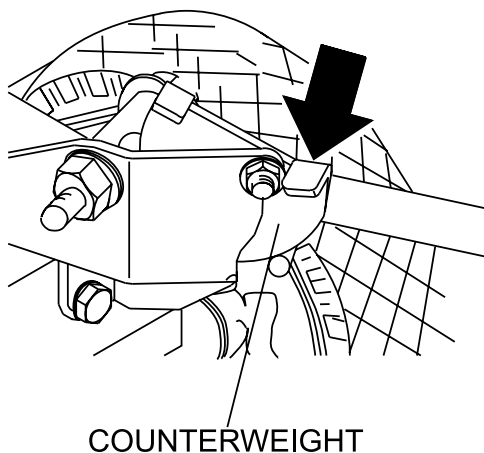

Figure 19. Outriggers (Released)
6. To unlock outriggers, push downward on the counterweight lever indicated by arrow (Figure 19).